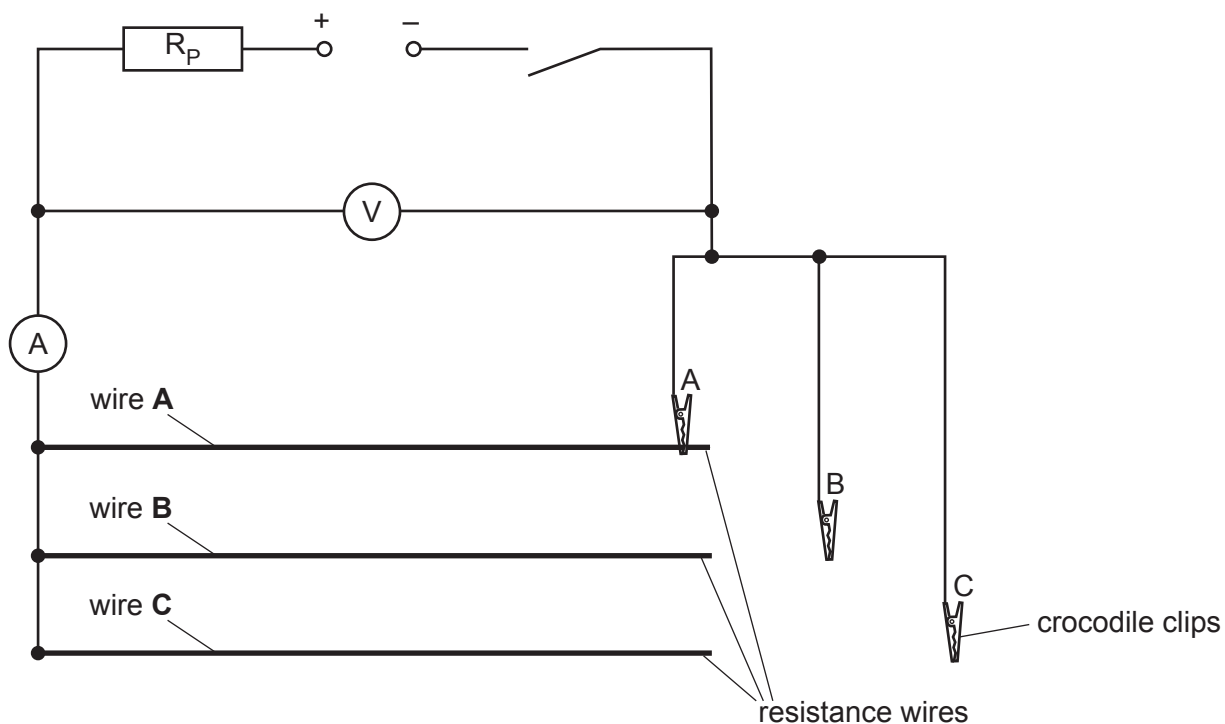

Fig. 2.1
- (vi) Sufficient connecting leads to set up the circuit shown in Fig. 2.1.
2. The circuit is to be set up for candidates as shown in Fig. 2.1.